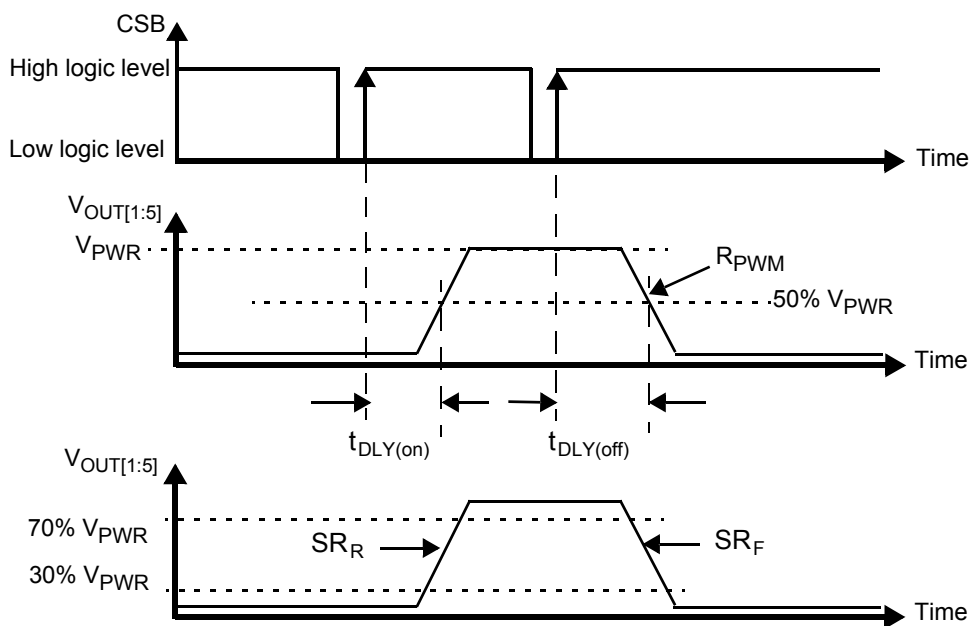

Figure 6. Output Slew Rate and Time Delays
39. The PWM ratio is measured at $V_{OUT} = 50\%$ of V_{BAT} in nominal range of PWM frequency (from 60 Hz to 400 Hz). It is possible to put the device fully on (PWM duty cycle = 100%) and fully off (PWM duty cycle = 0%). Between 4% - 96%, OCHI_{1,2}, OCLO and open load are available in ON state. See Figure 6. Output Slew Rate and Time Delays.
Figure 6 describes the PWM resolution.